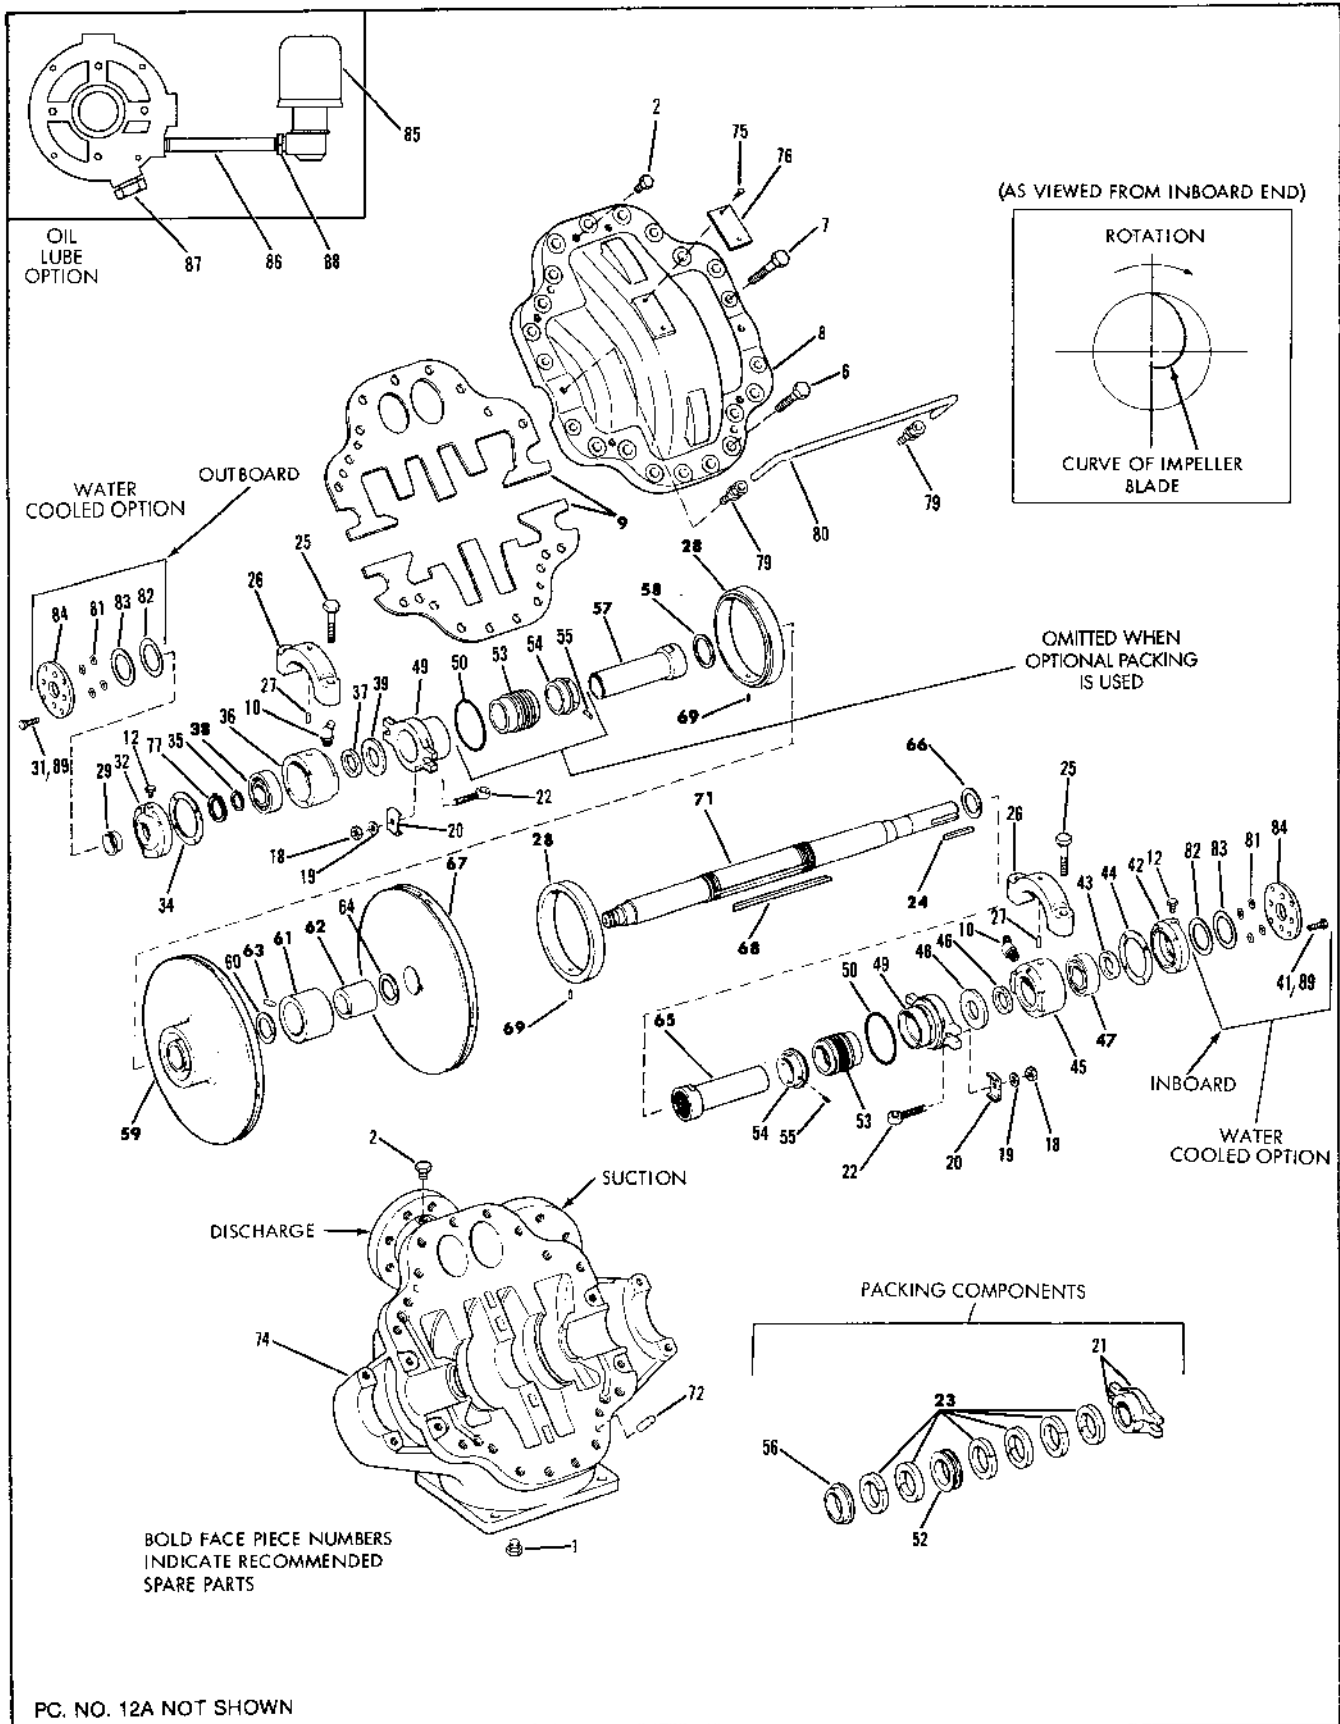

Figure 4. 431B Pump Exploded View
**MODEL 431B LIST OF PARTS (SEE FIGURE 4)**